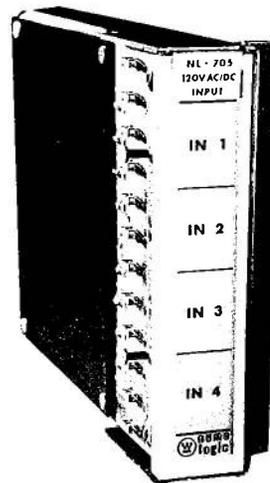

Figure 2-7. Typical 4-Point Discrete Input Module
**Discrete Input Modules:** Each input circuit on a discrete input module converts an individual input signal into the proper processor logic voltage. These input signals are typically supplied by pushbuttons, switches, contacts, etc. There are three basic discrete input module types: a 16-point shown in Figure 2-5, an isolated 8-point shown in Figure 2-6, and an isolated 4-point shown in Figure 2-7. As shown in these figures, each module type has a faceplate with a translucent lens. These lenses are available as a standard lens or, optionally, as a blank or custom lens. Each input circuit has an LED mounted behind its corresponding symbol on the faceplate lens to indicate the status of the circuit (e.g., ON or OFF, AUTO or MANUAL, etc). Discrete input modules are available for a variety of input signals, which are detailed in Table 2-1. Refer to the I/O manual for specifications and a description of each discrete input module type.